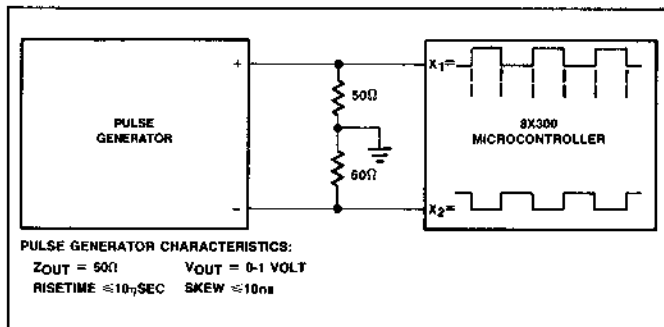
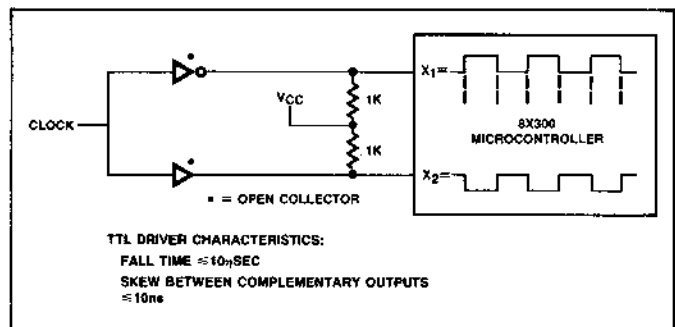

Figure 7. Clocking with a Pulse Generator
Figure 8. Clocking with TTL
**Using an External Clock:** The 8X300 can be synchronized with an external clock by simply connecting appropriate drive circuits to the X1/X2 inputs. Figure 7 shows how the on-chip oscillator can be driven from the complementary outputs of a pulse generator. In applications where the microcontroller must be driven from a master clock, the X1/X2 lines can be interfaced to TTL logic as shown in Figure 8.